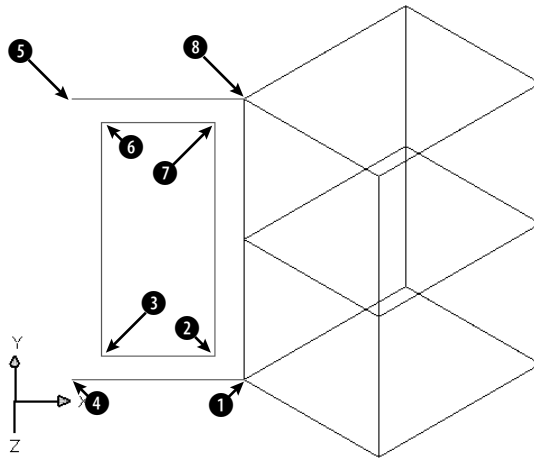

**Figure 23-5:** The partially completed cabinet.
**Your drawing should look like Figure 23-5.**
Specify first point or [Invisible]: *Pick the endpoint at ❶ in Figure 23-5.*